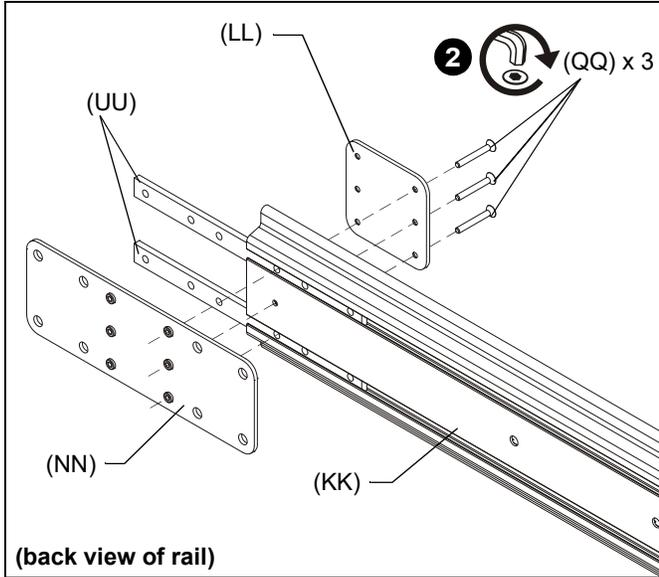

Figure 8
2. Secure connect bracket (LL) to front of mounting rail (KK) using three 10-24 x 1-1/2" flat head cap screws (QQ) fastened through one side of connect bracket, mounting rail (KK), tie bars (UU) and into connector plate (NN). (See Figure 8)